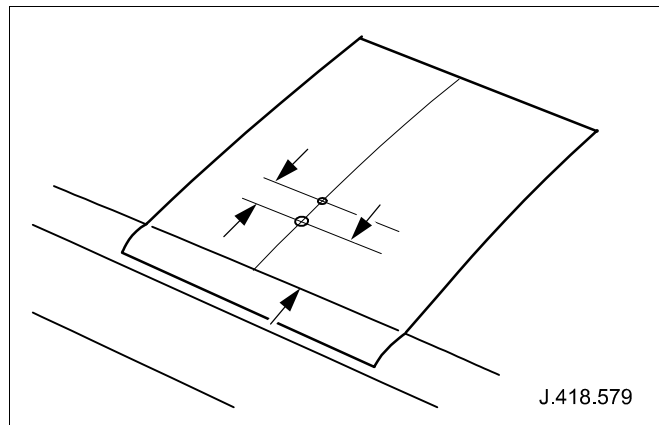

Fig. 8
- 21 Using a sharp lead pencil, Centrally measure and mark 32mm rearward from top edge of windshield finisher. Centrally, measure and mark off 14mm rearwards from the 32mm marked position. (See Fig. 8)